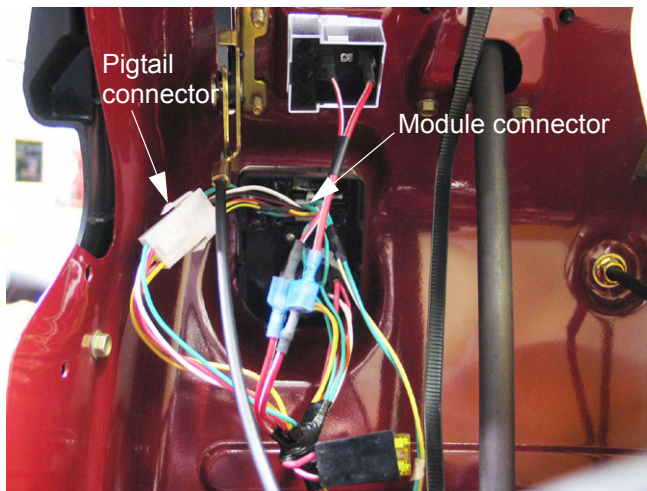

Figure 17.14
17.14. From the other side of the 8-pin pigtail connector, it emerges as one yellow wire with a black trace, and a second yellow wire with a white trace. See Figure 17.14.